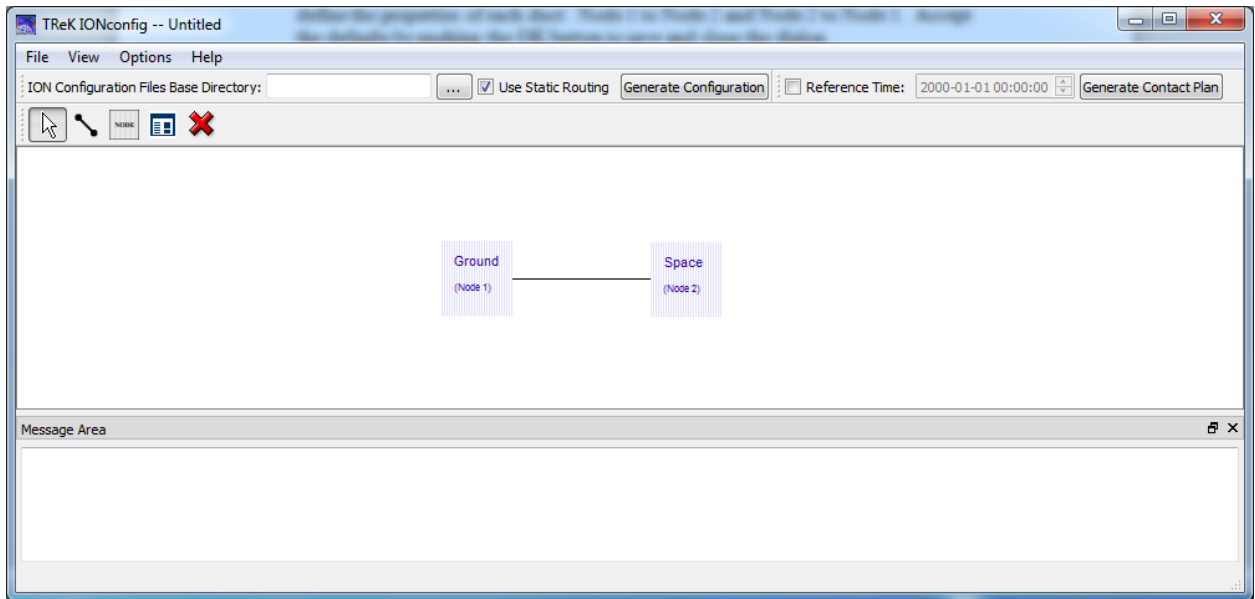

Figure 10 Two Nodes with Valid Data
- Use the left mouse button to double click on the Node on the right side of the diagram. This will display the Modify Node dialog for node 2. Enter an IP address for node 2 and Space for the Node Name. Push the OK button to save and close the dialog. The diagram should look like the one in Figure 10. Notice that once a node has valid data the node will be displayed with a different color. The Node Name is not required. But it can be handy to have node names.